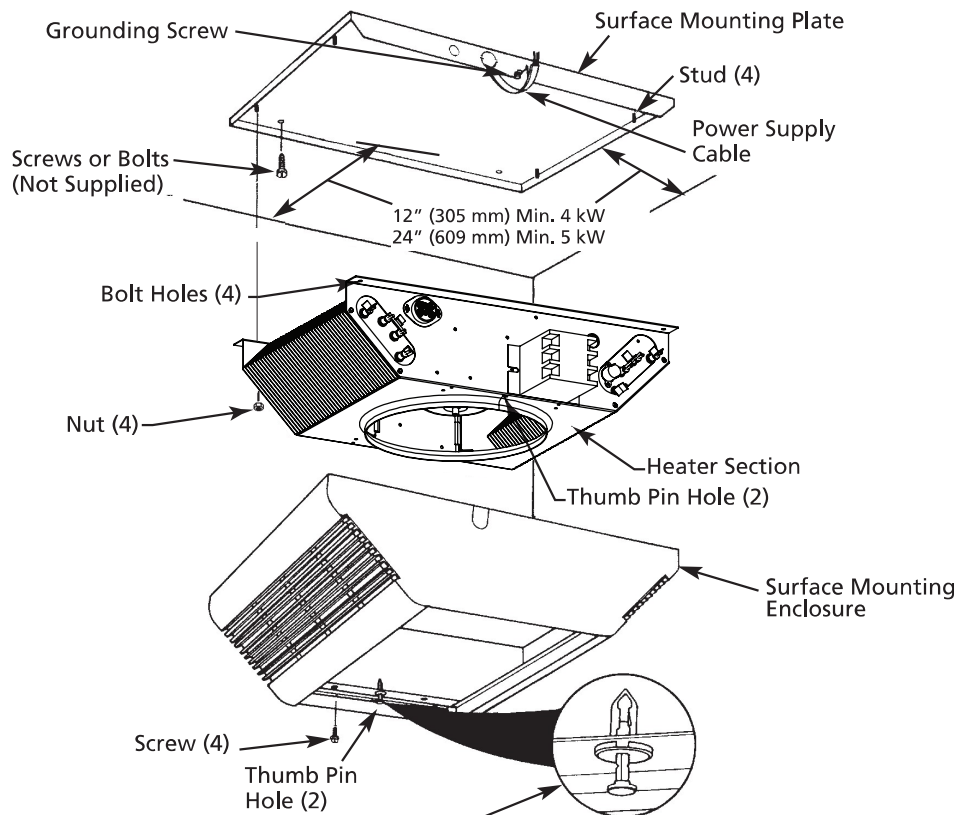

Figure 3
**▲ WARNING** *Failure to install the four mounting nuts to secure heater to mounting frame could result in the heater falling (see Figure 3).*
**▲ WARNING** *Failure to install the four screws could allow the surface enclosure to fall (see Figure 3).*
7. Position the surface mounting plate against the ceiling and secure with bolts or screws (Figure 3). See "Important Safety Information" Warnings, page 2. Connect the ground wire to the green ground screw on the surface mounting plate.
10. Position the heater section over the studs on the surface mounting plate (Figure 3).
11. Push the heater section onto the studs and securely tighten four (4) nuts (removed from Step 3) on the studs to secure the heater section to the surface mounting plate (Figure 3).
**⚠ WARNING** Failure to install the four mounting nuts could result in the heater falling (see Figure 3).
**NOTE:** Insure that the "thumb pin" in each end of the discharge grille opening is pulled outward to allow the body of the thumb pins to fit into the holes in the heater section (Figure 3).
**▲ WARNING** *Failure to install the four screws could allow the surface wrapper to fall (see Figure 3).*
14. Install and securely tighten four screws (supplied) to secure the surface mounting enclosure to the heater section (Figure 3).
**▲ WARNING** *Failure to install the four mounting nuts could result in the heater falling (see Figure 3).*
**▲ WARNING** Failure to install the four mounting nuts could result in the heater falling (see Figure 3).